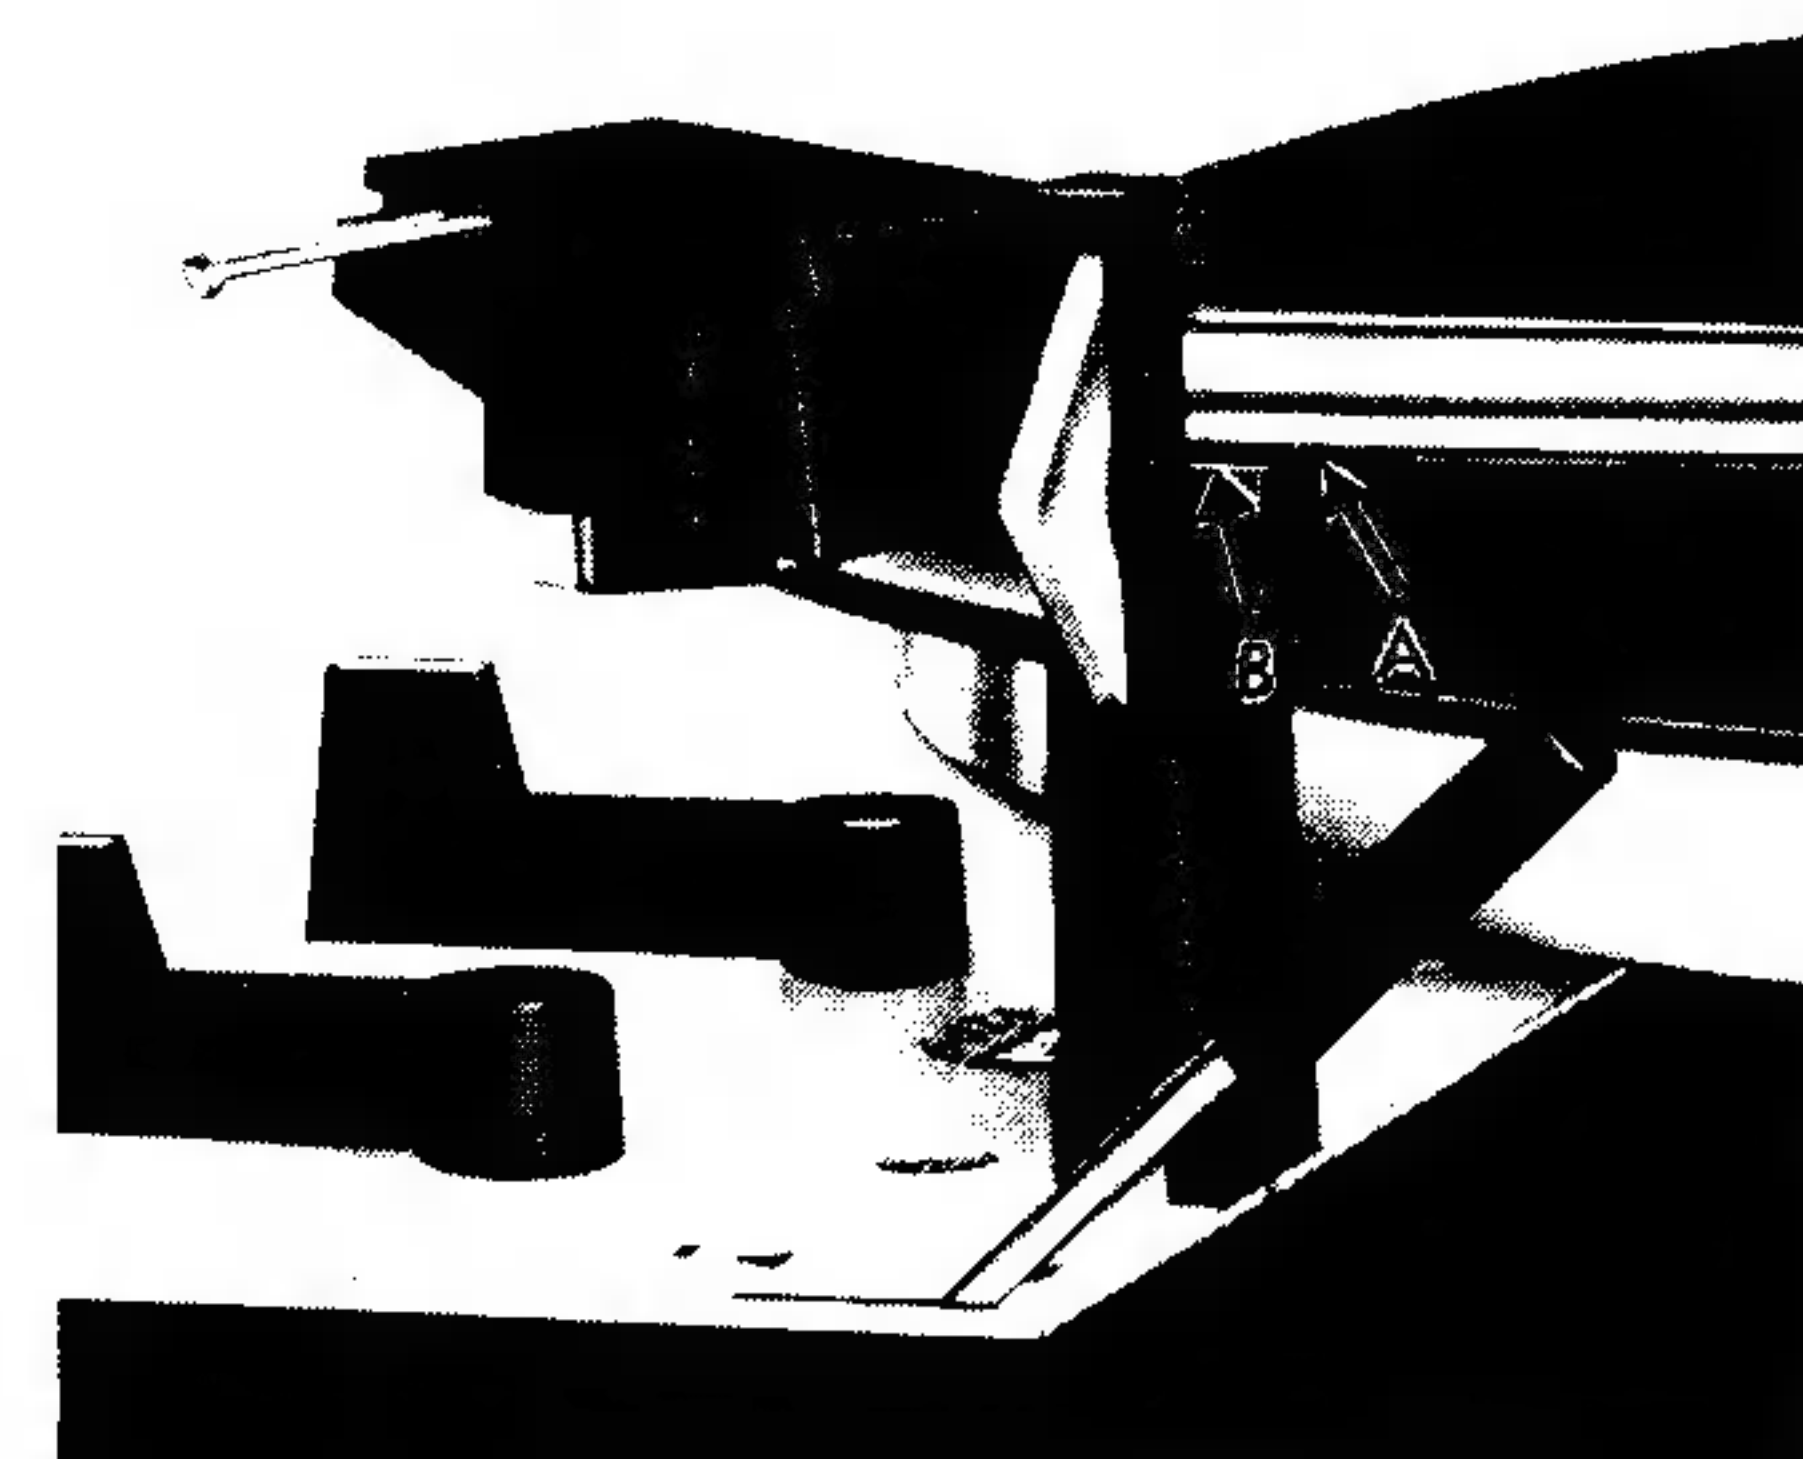

Fig. 17
4. You can now get an exact balance by turning the counterbalance. The tonearm is precisely balanced when edge "A" of the tonearm head and edge "B" of the tonearm rest are at equal height (Fig. 17) or when the tonearm returns by itself to a horizontal position after the chassis is tapped.